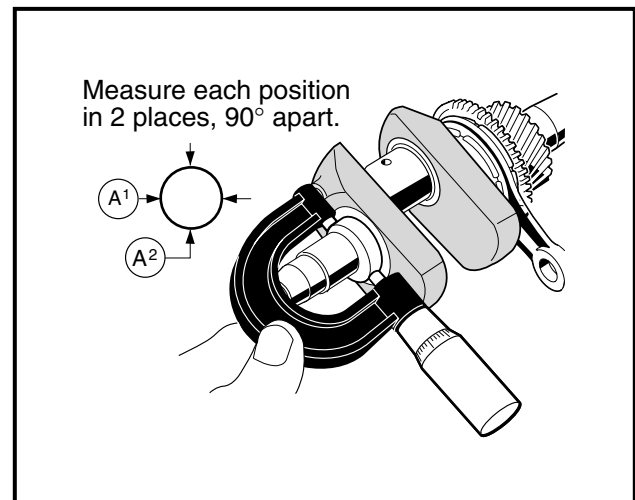

Figure 13-86 Measure Link Rod Journals
6. Using a micrometer, measure crankshaft link rod journals at several points (**Figure 13-86, Page 13-40**).